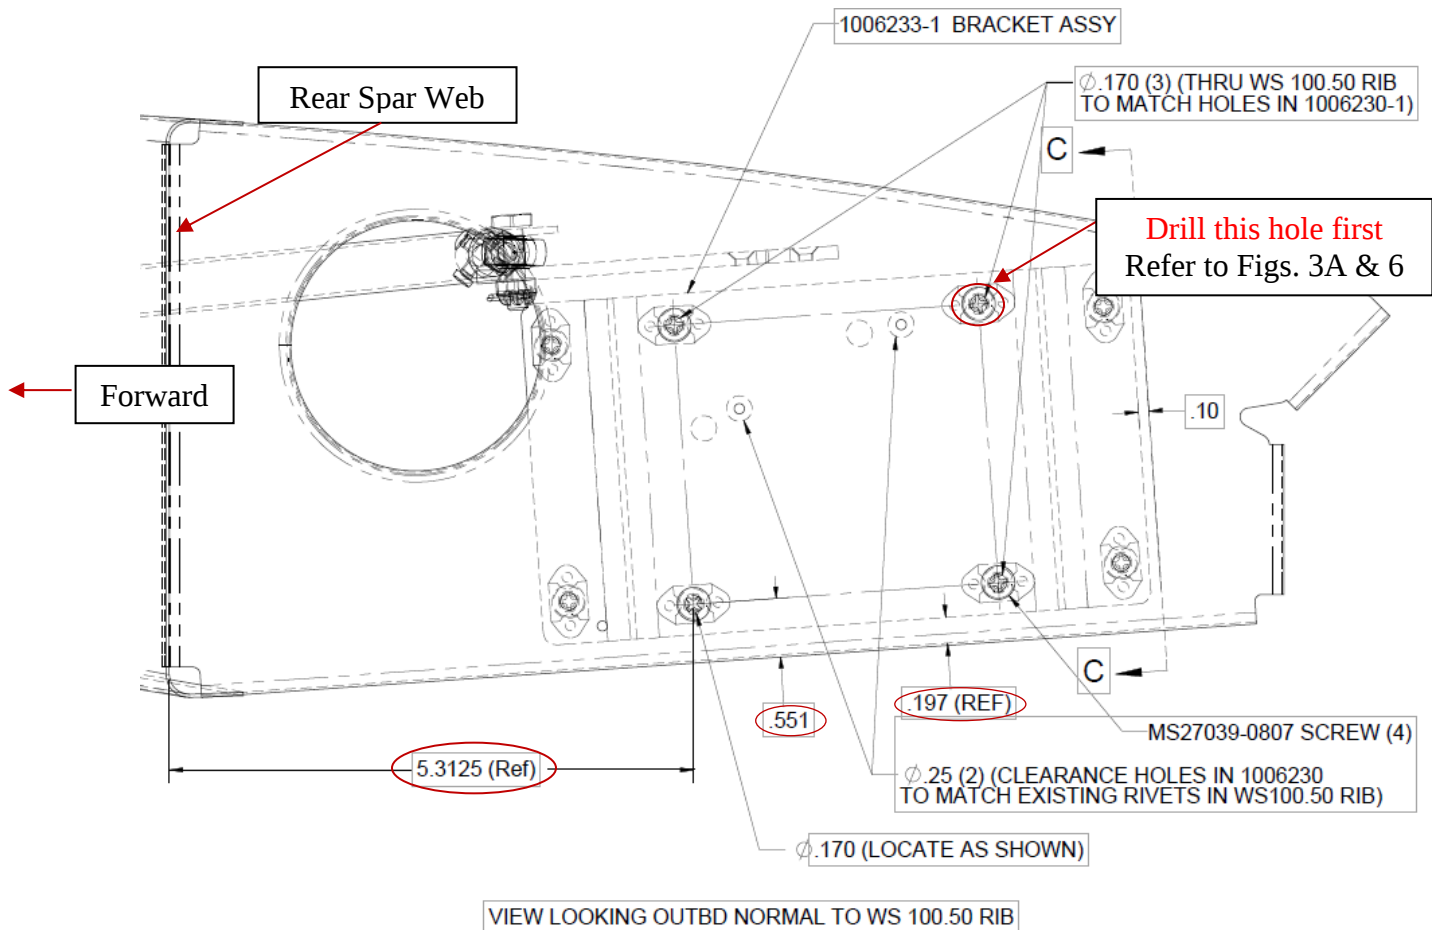
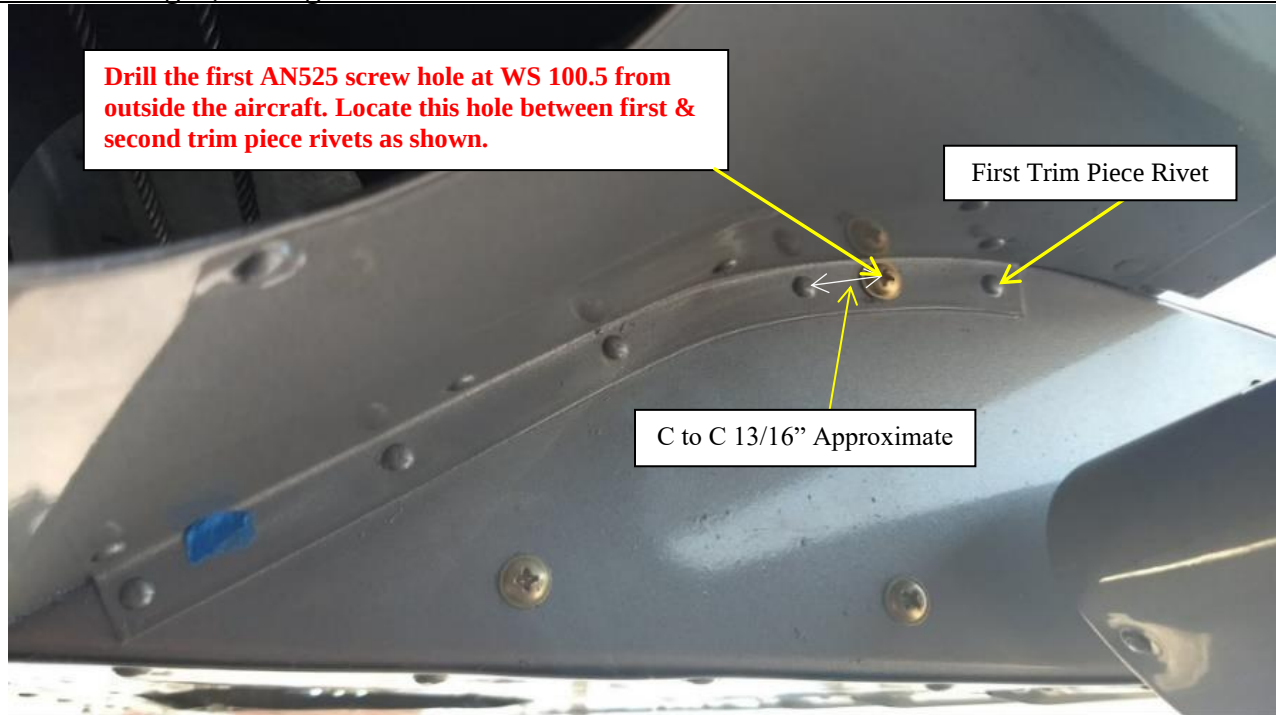
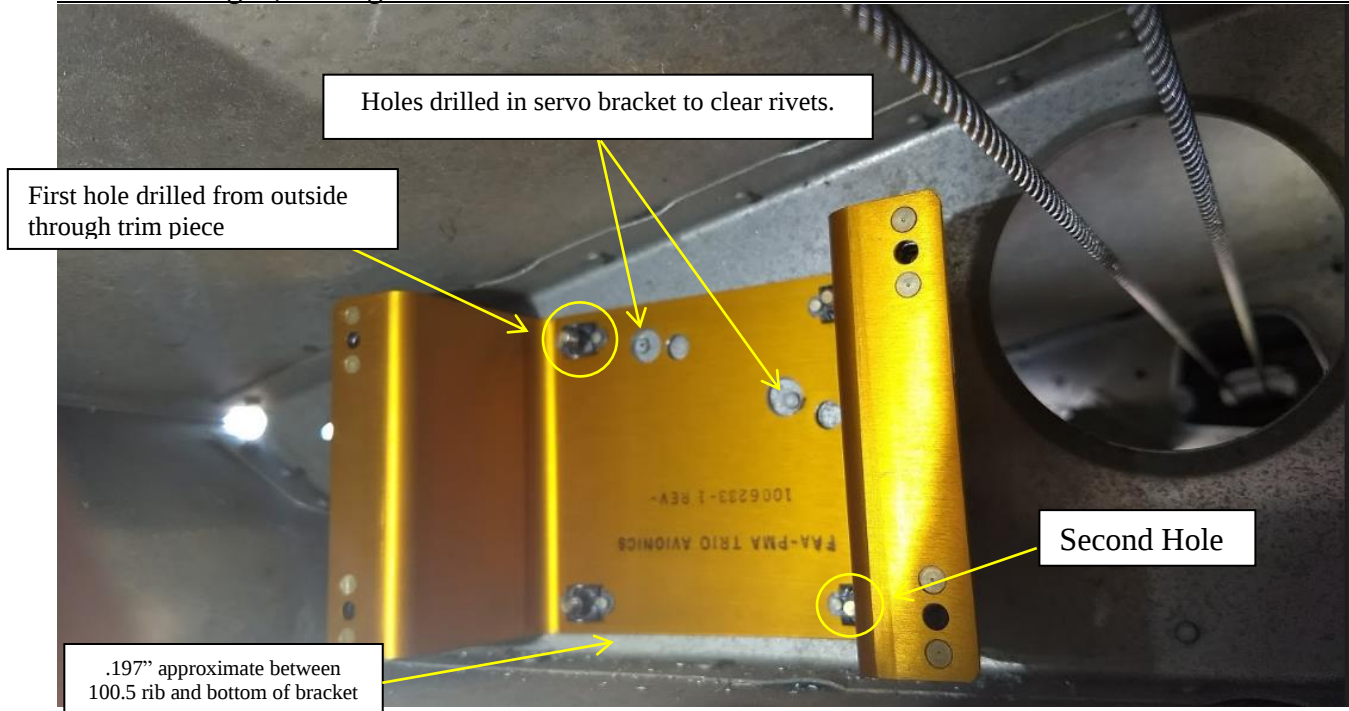

FIGURE 3-2 ROLL SERVO & MOUNTING PLATE INSTALLATION
FIGURE 3-3 ROLL SERVO & MOUNTING PLATE INSTALLATION
FIGURE 3-5 ROLL SERVO BRACKET ASSEMBLY AT FS 100.5
3. Center punch and drill the upper rear hole through the WS 100.5 trim piece as shown in Figure 3-2 using a #40 pilot drill. Drill from outside the aircraft as depicted in Figure 3-3.
4. The hole in Step 3 above should be located approximately 13/16" from the second rivet closest to the trailing edge as shown in Figure 3-2 & 3-3. **Questions? Call us before drilling.**
5. Enlarge the hole in Step 3 with a #30 drill bit. Cleco the servo bracket into position from the outside. Align the servo bracket per Figures 3-2, 3-3 & 3-5.
6. Center punch through the remaining nutplates onto the W.S. 100.5 rib. Refer to Figures 3-2 & 3-5.
11. Remove the servo mounting bracket and enlarge the four (4) holes made in Step 8 above using a #16 drill bit.
13. Clearance holes for existing rivets may be required as shown in Figure 3-5. Mark the rib through the pre-drilled holes to assist in locating the rivet clearance holes in the bracket. Drill clearance holes using a step drill.
14. Fasten the servo arm to the servo hub using the four (4) M3 (metric) screws supplied.
15. The bracket assembly and servo must be joined together inside the wing. Mount the roll servo to the bracket assembly using the four (4) MS27039-0807 screws. Mount the servo and bracket assembly to the 100.5 rib using the AN525 screws provided in the kit.